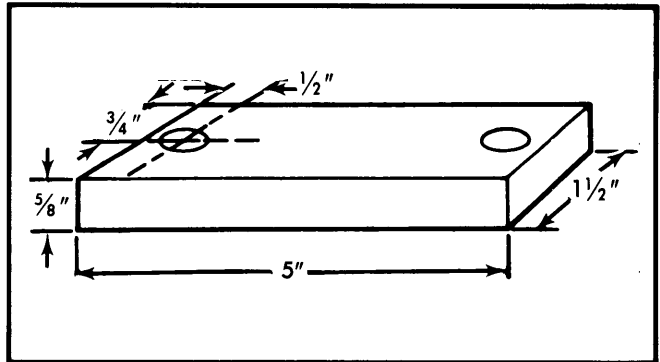

Fig. 7 Fabricated Flaring Tool Back-Up Plate
2) Place fabricated back-up plate (See Fig. 7) on flared end of bushing retainer and assemble suitable tool (J-8433) to plate with two 1/2 x 5" bolts.